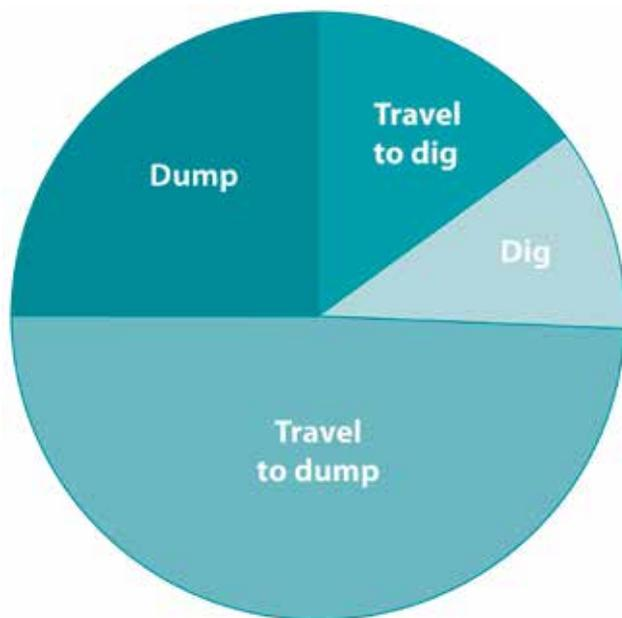

Figure 2: CT component percentages of a DE mining loader (21 m³).
Cycle time of a mining loader consists of the following phases: Travel to Dig (TDG), Dig (DG), Travel to Dump (TDMP) and Dump (DMP), (Table 1). In the case studied, the total cycle time comprises of 15 % of CT is travelling to dig, 11 % of CT is digging, 49 % of CT is travelling to dump and 25 % of CT is dumping into truck tray, (Figure 2).